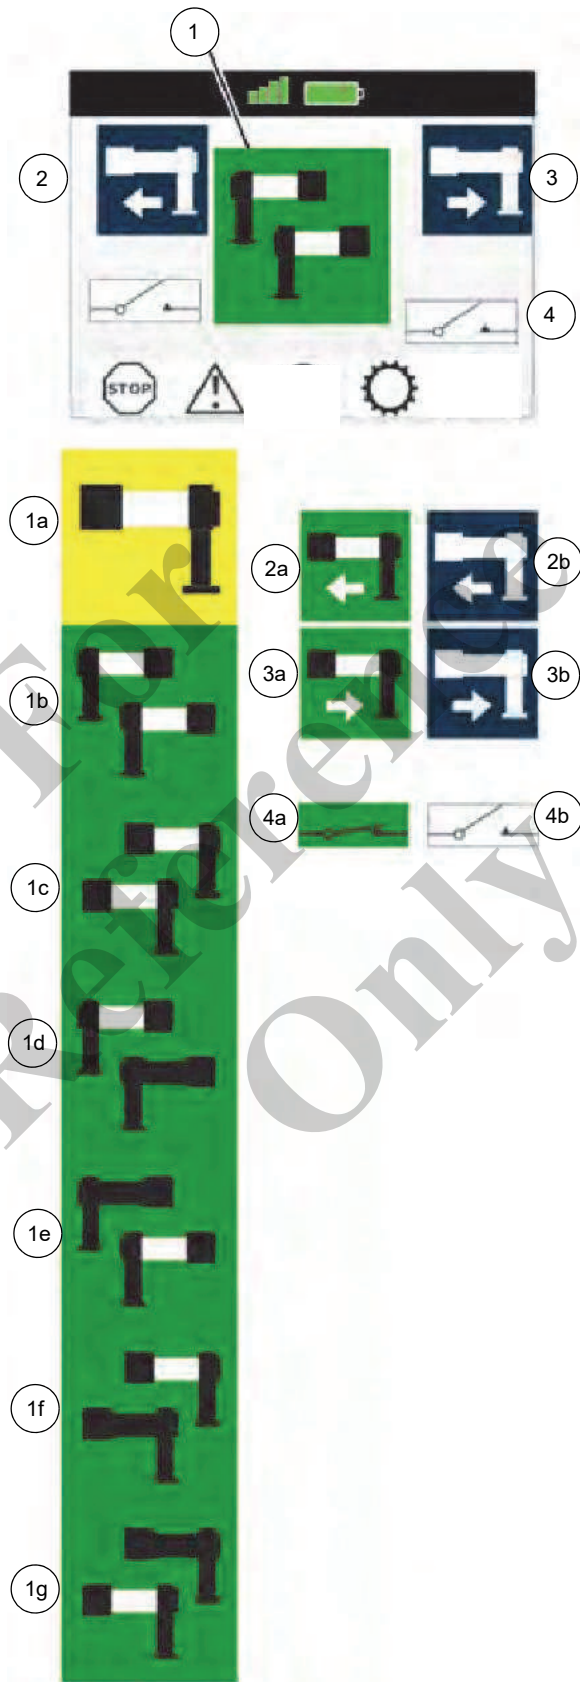

FIGURE 3-56
See Figure 3-56 and (Figure 3-50).
1. Press the Outrigger Beams Button(5a), (Figure 3-50) on the remote control as many times as needed until the desired beam screen (1a through 1g), (Figure 3-56) appears.